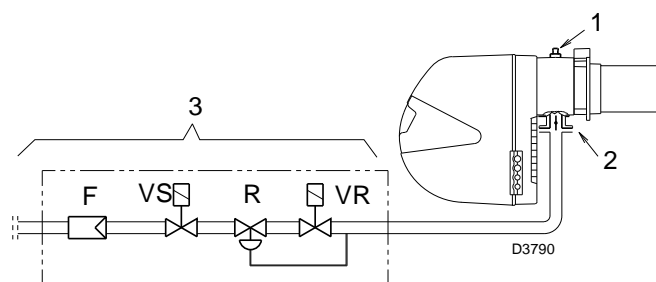

Fig. 18
Gas pressure at test point 1)(Fig. 18), with combustion chamber at 0 mbar;
Pressure loss at gas butterfly valve 2) (Fig. 18) with maximum opening: 90°.
Pressure loss of gas train 3) (Fig. 18) includes:
- subtract the combustion chamber pressure from the gas pressure measured at test point 1) (Fig. 18).
$$\begin{aligned} \text{Gas pressure at test point 1) (Fig. 18)} &= 14.1 \text{ mbar} \\ \text{Pressure in combustion chamber} &= 2 \text{ mbar} \\ 14.1 - 2 &= 12.1 \text{ mbar} \end{aligned}$$
To calculate the required gas pressure at test point 1) (Fig. 18), set the MAX output required from the burner operation:
- read, on the right (column 1), the pressure at the test point 1) (Fig. 18).
$$\begin{aligned} \text{Required burner maximum output operation: 600 kW} \\ \text{Gas pressure at an output of 600 kW} &= 12.1 \text{ mbar} \\ \text{Pressure in combustion chamber} &= 2 \text{ mbar} \\ 12.1 + 2 &= 14.1 \text{ mbar} \\ \text{Pressure required at test point 1) (Fig. 18).} \end{aligned}$$